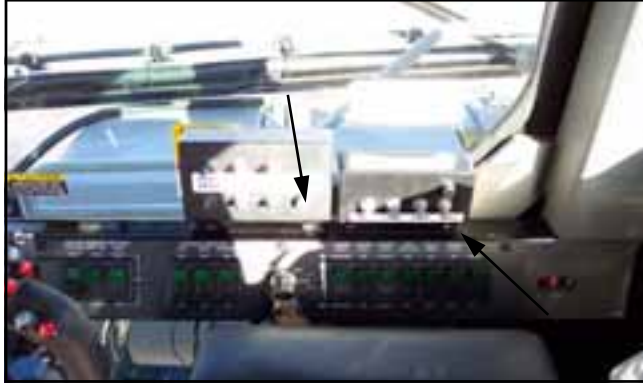
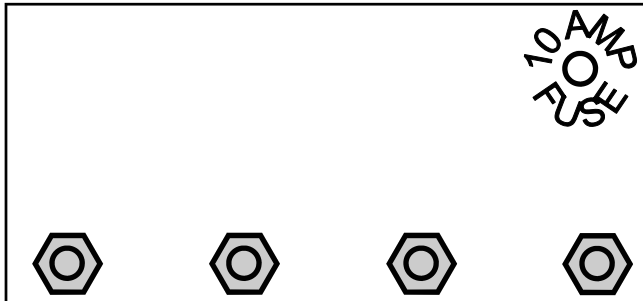
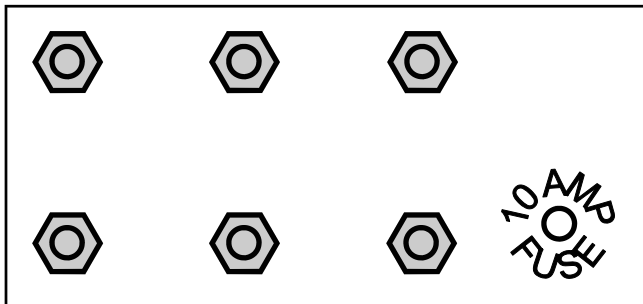

FIG. 5.9
FIG 5.10
FIG 5.11
MOTOR CONTROL FUSE – The fuse for the motor control valves is located in the motor control switch box (fig. 5.9, item 2). If the motor control fuse blows, remove it by rotating the fuse cap counter-clockwise as you push in. Then pull the fuse straight out. Replace the blown fuse with the same amperage fuse only (fig. 5.10). If the fuse continues to blow, determine the cause and correct it.
DEPTH COMMAND FUSE – The fuse for the DEPTH COMMAND is located in the switch box (fig. 5.9, item 1). If the DEPTH COMMAND fuse blows, remove and replace it in the same manner as above. Replace the blown fuse with the same amperage fuse only (fig. 5.11).